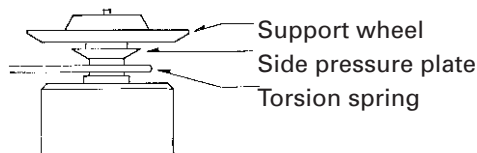

Fig. 27
2. Check that the torsion spring presses the side pressure plate (see Fig. 27).